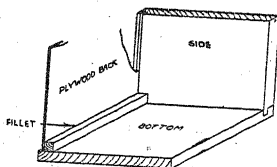

Fig. 3—Fixing plywood to fillets
**Fig. 3—Where to drive the nail to prevent the parts gaping** always be used on a rubber. This can be a piece of cork or block of wood, or better still, the special comfortable glasspaper block supplied by Hobbies.
Make a hole before you drive in the nail, and see it passes right through the two parts concerned. A suitable position for such a nail is shown at Fig. 3, but this is merely an addition to the gluing and not sufficient in itself.